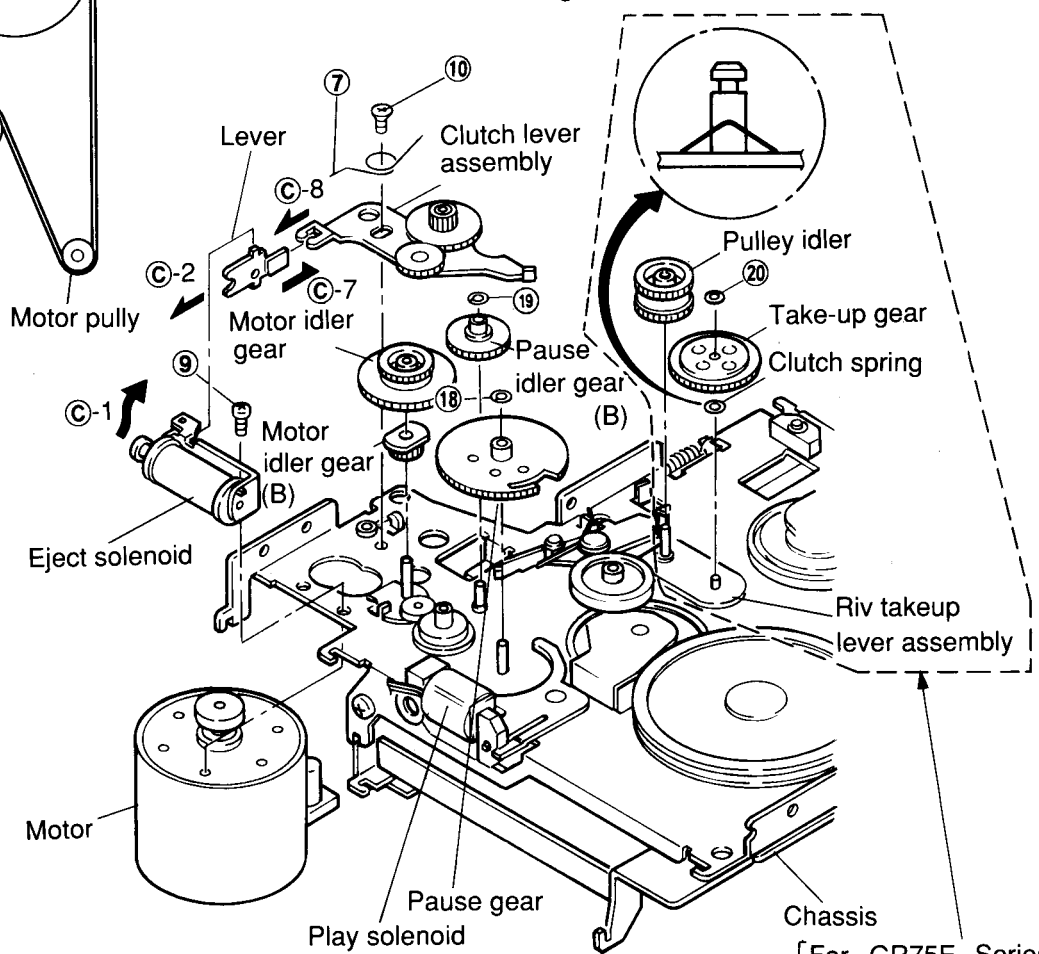
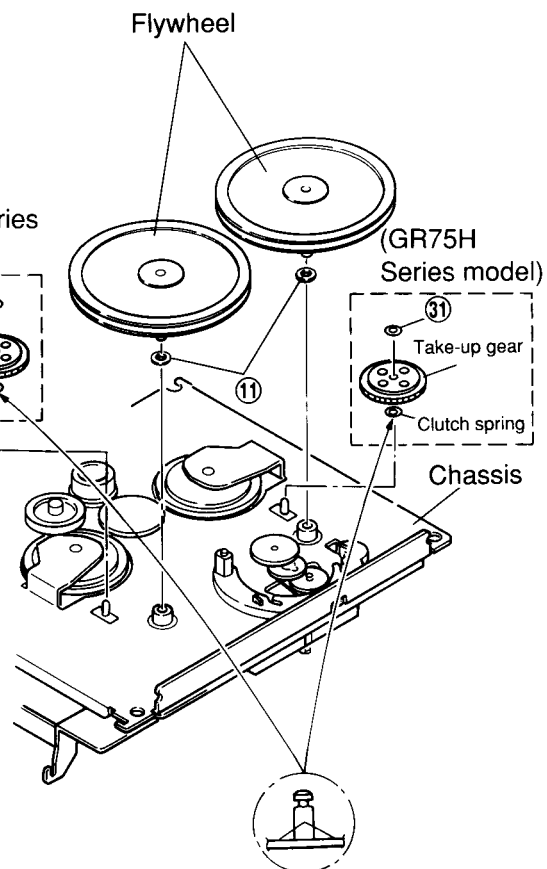

Figure 10
Figure 12
- (1) After removing the belt, remove spring ⑦ as shown in Figure 10.
- (3) Remove two screws ⑨ and ⑩, and remove the motor, taking care not to damage the motor idler gear. (Refer to Figure 10.)
- (4) Mount the new motor following the removal steps in the reverse order.
- (1) After removing the belt, pull out the two flywheels. Take care not to loose the polyslider washer (11) located between the flywheel and the chassis. (Refer to Figure 12.)
- (2) Fix the polyslider washer to the new flywheel and mount the flywheel to the chassis.
- (2) Remove screw (9) and remove the solenoid as shown in Figure 10.
- (3) Align position (C)-1 of the new solenoid with position (C)-2 of the lever and fasten the screw as shown in Figure 10.
- (4) Lead the wire through the tube and solder it.
- (1) After removing the motor, remove the motor idler gear and the motor idler gear (B) and remove the clutch lever assembly as shown in Figure 10.
Note: When mounting the gears to the lever, apply grease (PG-671) to the position ㉔-6 as shown in Figure 15. Align the position ㉔-7 with the position ㉔-8 and mount the clutch lever as shown in Figures 10 and 15.
- (1) Remove M1.2 lock washer ⑱ and remove the pause gear pulling it up from the stud of the chassis as shown in Figure 10.
- (2) Mount the new gear following the removal steps in the reverse order.
- (1) After removing the motor and the motor idler gear, remove M1.2 lock washer ⑲ and remove the gear by pulling it up from the stud of the chassis as shown in Figure 10.
- (2) Mount the new gear by following the removal steps in the reverse order.
- (1) After removing the belt and the pulley idler gear, remove M1.2 lock washer ⑳ by pulling it up from the stud of the riv take-up lever assembly as shown in Figure 10. After removing the Flywheel, remove M1.2 lock washer ㉑ and remove the gear by pulling it up from the stud of the chassis as shown in figure 12. [For GR75H Series model]
- (2) Remount the take-up gear following the removal steps in the reverse order.